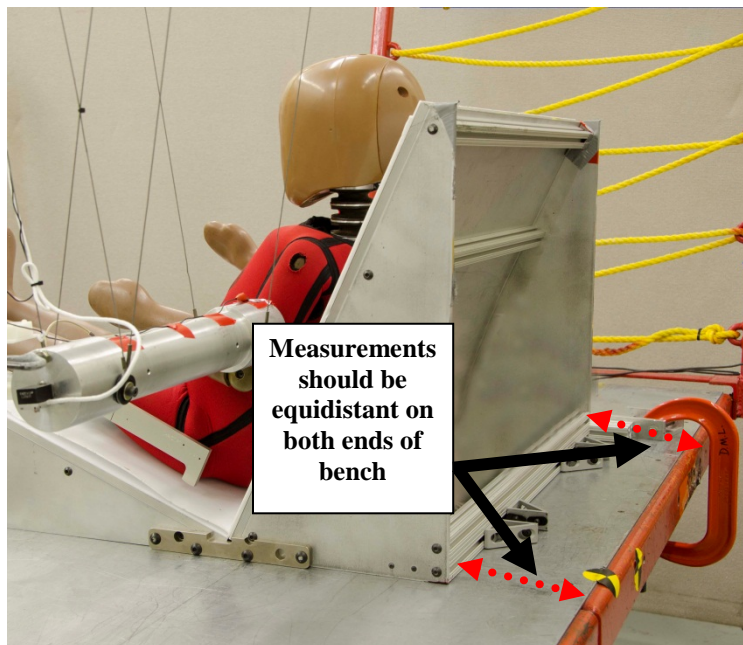

Figure 94. Checking that the bench is aligned
- Reposition the arm so that the upper arm is perpendicular to the lower arm; move the arm down so that it is in the probe impact area. Square the bench by measuring the distance of a reference edge along the back of the bench which is parallel to the line of impact, such as the edge of the table (Figure 94). Perform this measurement at both ends of the bench. Slightly adjust bench until it is parallel to the line of impact so that both measurements are equidistant (± 1 mm) to the reference, taking care to maintain the thorax positioning at the probe.
- Move the seat as needed to achieve desired results. Align the bench by measuring the distance of a reference edge along the back of the bench which is parallel to the line of impact, such as the edge of the table (Figure 94). Perform this measurement at both ends of the bench. Slightly adjust bench until it is parallel to the line of impact so that both measurements are equidistant (± 1 mm) to the reference, taking care to maintain the arm impact positioning at the probe.